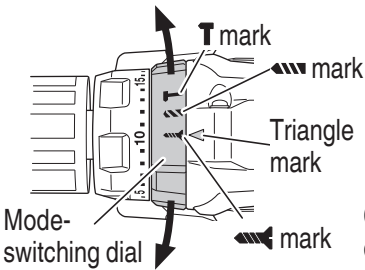
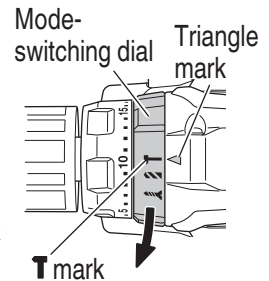

Fig. 14
Fig. 16
Confirm the mode-switching dial and clutch dial position (see Figs. 14, 15 and 16)
- (1) When using this unit as a screwdriver, align the mode-switching dial screw-tightening mark "▲" with the triangle mark on the outer body, and line up the one of the numbers "1, 5, 10 ... 20" on the clutch dial, or the dots, with the triangle mark on the outer body (see Figs. 14 and 15).
- (2) When using this unit as a drill, align the mode-switching dial drill mark "▲" with the triangle mark on the outer body.
- (3) When using this unit as an impact drill, align the mode-switching dial hammer mark "T" with the triangle mark on the outer body (see Fig. 16).
- Always use this unit with clockwise rotation, when using it as impact drill (See Fig. 16).